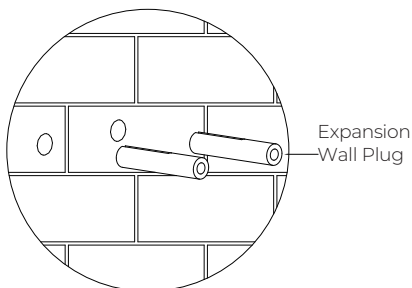

Fig. 3-14-3
- Hammer the expansion wall plug in until it's flush with the wall. See fig. 3-14-3.